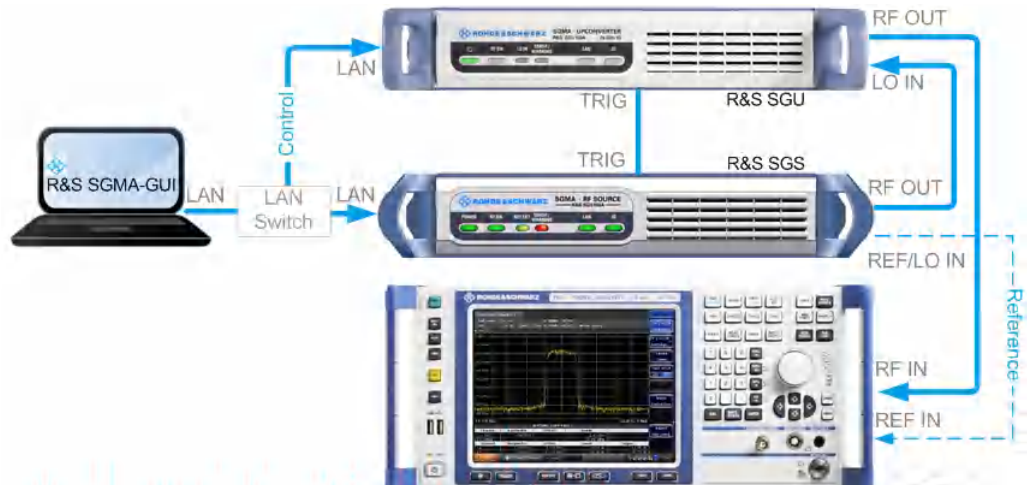

Figure 5-1: Example of a test setup for upconverting a CW signal generated by the R&S SGS
1. Connect the test equipment as shown on Figure 5-1: